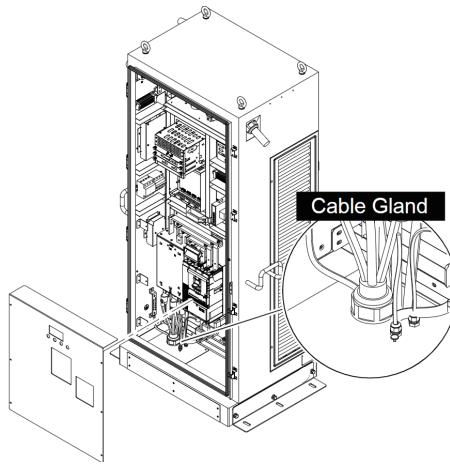

Figure 19. Cable Gland
1) Open the door and remove the protective cover for the wiring. See Figure 19.
5) Make sure you have enough slack in each cable, then fasten the cable gland(if needed). See Figure 19.